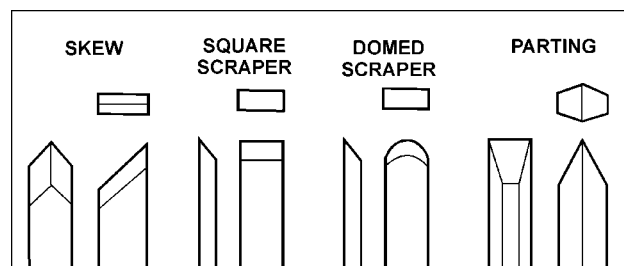

Fig. 11
**Skew** - used to make vees, beads, etc., see Figure 11.
**Square Scraper** - used for diameter scraping and featureless scraping, etc, see Figure 11.
**Large Domed Scraper** - used to reduce ridges on the interior of bowls, round edges of bowls, etc, see Figure 11.
**Parting Tool** - used to cut directly into the material, or to make a cut off. Also used for scraping and to set diameters, see Figure 11.